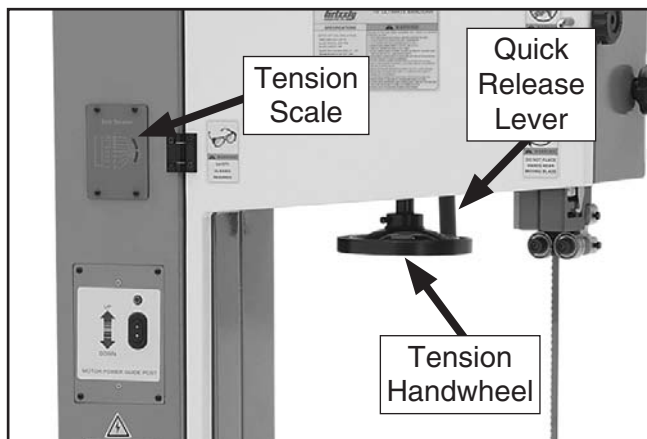

Figure 24. Blade tension controls.
3. Move the blade tension quick release lever all the way to the right (as viewed from the rear of the machine) to apply tension, then rotate the tension handwheel until the mark on the blade tension scale matches the one for the blade width (see **Figure 24**).